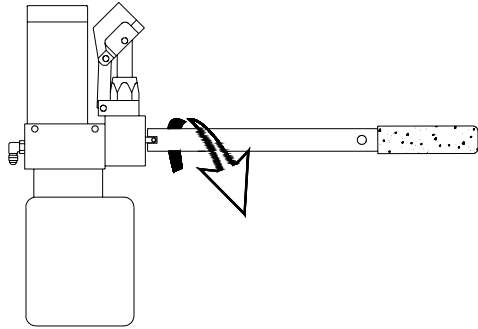

FIGURE 2-15: COUNTER-CLOCKWISE LOWERS PLATFORM
- 1) Refer to **Figure 2-15** on following page. Engage hydraulic system pressure release valve with notched end of pump handle and slowly rotate it counter-clockwise. Do not open the valve any further once the platform begins to lower.